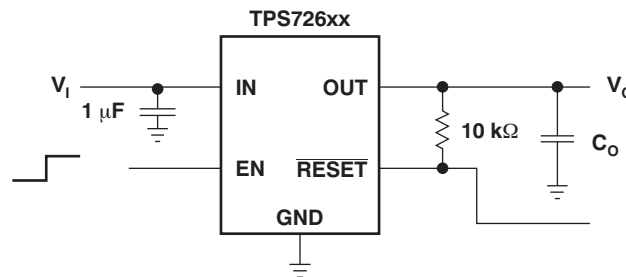

Figure 18. TPS726xx Fixed Output Typical Application Diagram
• Added <a href="#">Figure 18</a> .....	8